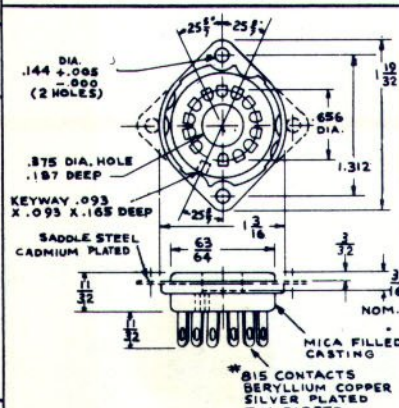
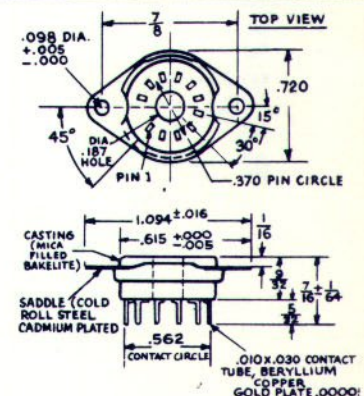

**FIG. 8 CONTACT SOCKET ASSEMBLY HSK 106 AND HSK 112 FOR STANDARD AND SUPER TUBES**
**FIG. 9 CONTACT SOCKET ASSEMBLY SK 116 FOR MINIATURE TUBES**
| Socket               | SK-116Fig. 9                                    | HSK-106 orHSK-112Fig. 8 | HSK-106 orHSK-112Fig. 8 | SK117Fig. 10               | SK117Fig. 10                              |
- Note 2** See Fig. 8. The tube socket is oriented with respect to the viewing position so that A-A', intersecting the